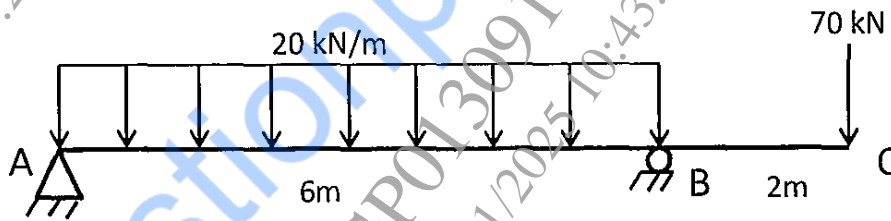

Figure 2
- Q3) a) Plot Shear force and Bending moment diagram for the overhanging beam loaded and supported as shown in Figure 2 [8]